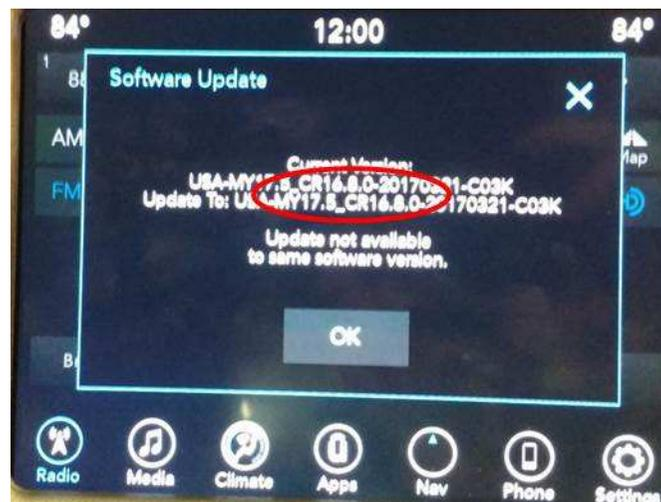

Fig. 10
13. After the update is done the screen will display the software levels again and the message that an update is not available to the same software version (Fig. 10) .